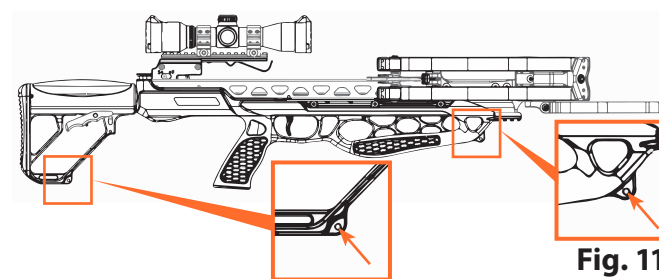

Fig. 11
1. The CP400 has sling mounting holes located on the forend and buttstock (Fig. 11).